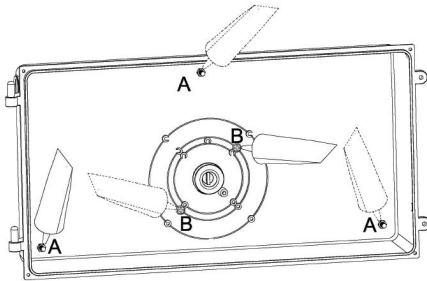
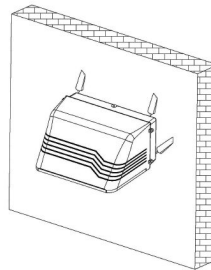

FIG. 2
FIG. 3
6. Seal the all the holes drilled inside, the gap between the back plate and the J-box/wall, with silicone sealant (See FIG.2, FIG.3)